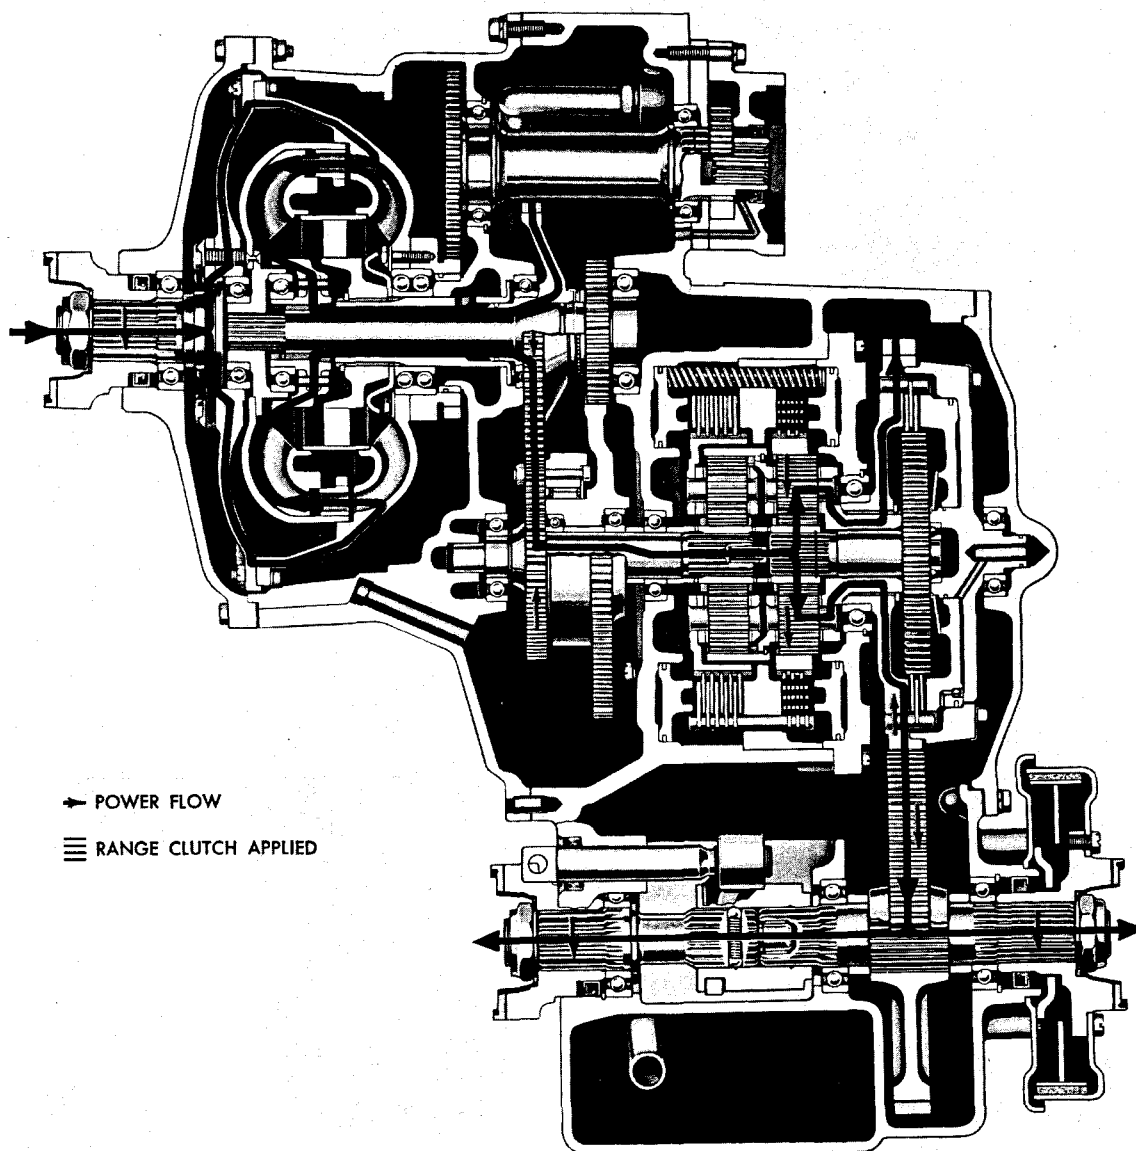

Fig. II-8. Forward-1, second turbine—torque path
a. Fig. II-8 illustrates the torque path through the transmission, under lighter load or higher speed conditions, in forward-1 range. Refer also to foldout 1 for identification of components. Under these conditions, oil from the converter pump blades is thrown against the second-turbine blades because there is no significant difference between the pump and first-turbine speeds. From the